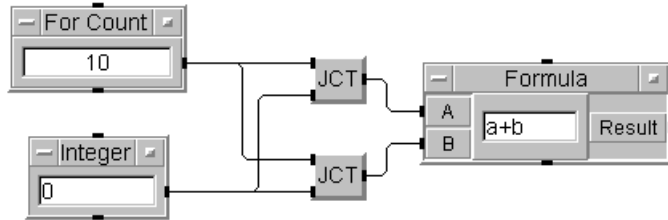

**Figure 1-7. Parallel Junctions**
**Parallel Junctions.** In versions before VEE 4.0, if you had unconstrained objects that were connected in parallel to `Junction` objects, the order that you made the connections affected the execution order. In VEE 4 and higher Execution Mode, the order of connection does not matter, as Figure 1-7